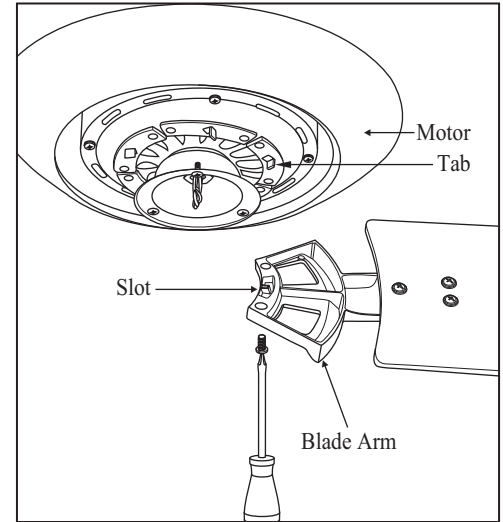

Figure 12
3. Fasten the blade assemblies to the motor by lining up the slots of the blade arms with the tabs on the motor, then tighten the two screws and washers already installed in the blade arms (Fig. 12).